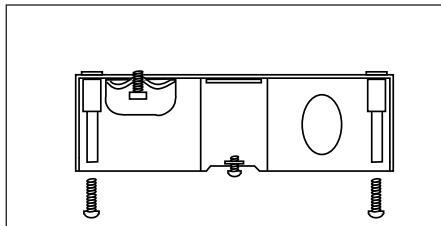
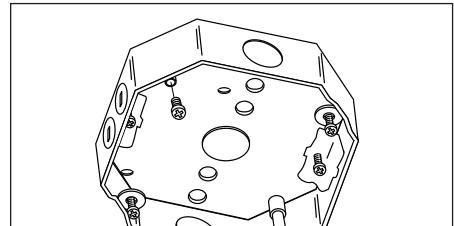

figure 2
figure 3
**NOTE:** Mount heavy fixture and ceiling fans with the 10-24 x 3/4" bolts into the threaded inserts (figure 2). Mount lightweight fixtures and cover plates with the 8-32 screws in the electrical box ears (figure 3).